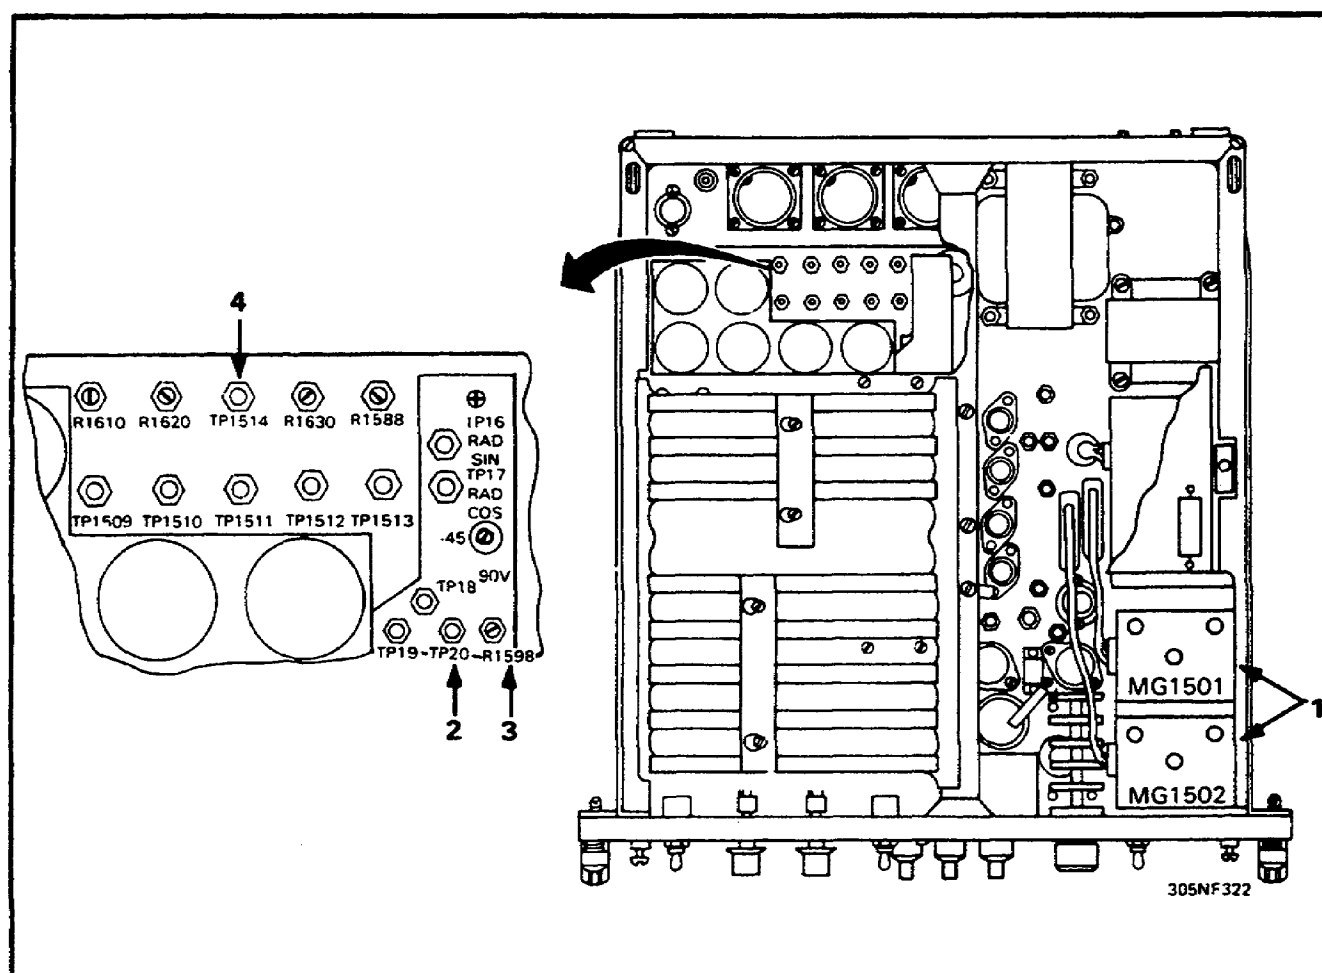

Figure 9. Components of synchronizer-generator, electronic-marker, SN-386/FPN-40.
h. Locate the following components of the synchronizer-generator, electronic-marker SN-386/FPN-40. (See Figure 9.)
- (1) Radar and IFF sine-cosine converters MG-1501 and MG-1502.
- (2) 90 V AC test point TP-1520.
- (3) 90 V AC ADJ control R-1598.
- (4) Ground test point TP-1514.
- _____ Radar sine-cosine converter MG-1501 (Figure 9)
- _____ IFF sine-cosine converter MG-1502 (Figure 9)
- _____ 90 V AC test point TP-1520 (Figure 9)
- _____ 90 V AC adjust control R-1598 (Figure 9)
- _____ Ground test point TP-1514 (Figure 9)